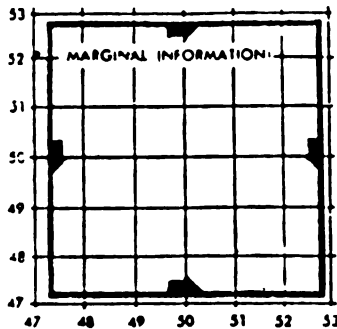

Figure 4
4. Construct the horizontal grid lines exactly 4 cm apart perpendicular to the vertical centerline and parallel to the horizontal centerline (fig. 4).